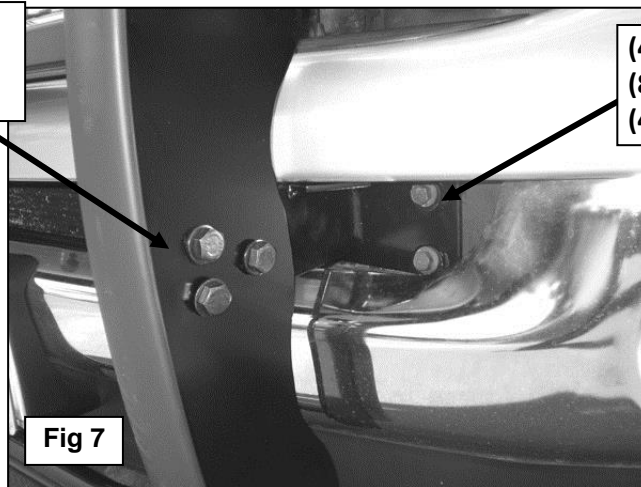

Fig 7
Select the driver side Frame Bracket, (**Figure 5**). Bolt the Bracket to the (4) holes in the end of the frame with the supplied (4) 10mm x 40mm Hex Bolts, (8) 10mm Flat Washers and (4) 10mm Nylon Lock Nuts, (**Figures 6A & 6B**). **NOTE:** Factory tow hook hardware may also be re-used with the included 10mm Flat Washers installed between Bracket and hex bolt, (**Figure 7**). Do not tighten hardware.
5. With assistance, lift the Grille Guard up to the outside of the Frame Mounting Brackets. Bolt the Grille Guard to the Brackets with (6) 12mm x 35mm Hex Bolts, (12) 12mm Flat Washers and (6) 12mm Nylon Lock Nuts, (**Figure 7**). **IMPORTANT:** Slowly close the hood to check for clearance and fit of the Grille Guard and Brackets. Adjust as necessary then snug but do not fully tighten all of the hardware.